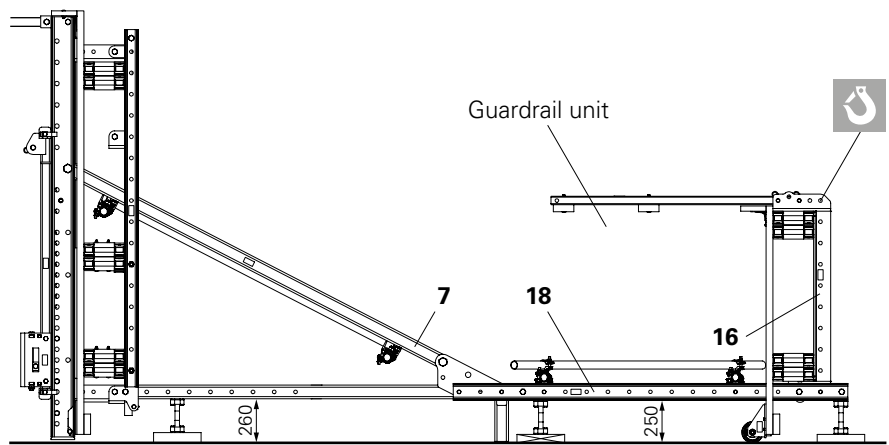

Fig. B7.05
6. Lower the finishing platform first and place the bracket unit forward on the dismantling support (**260/250 mm**). (Fig. B7.05)
(Fig. B7.05)